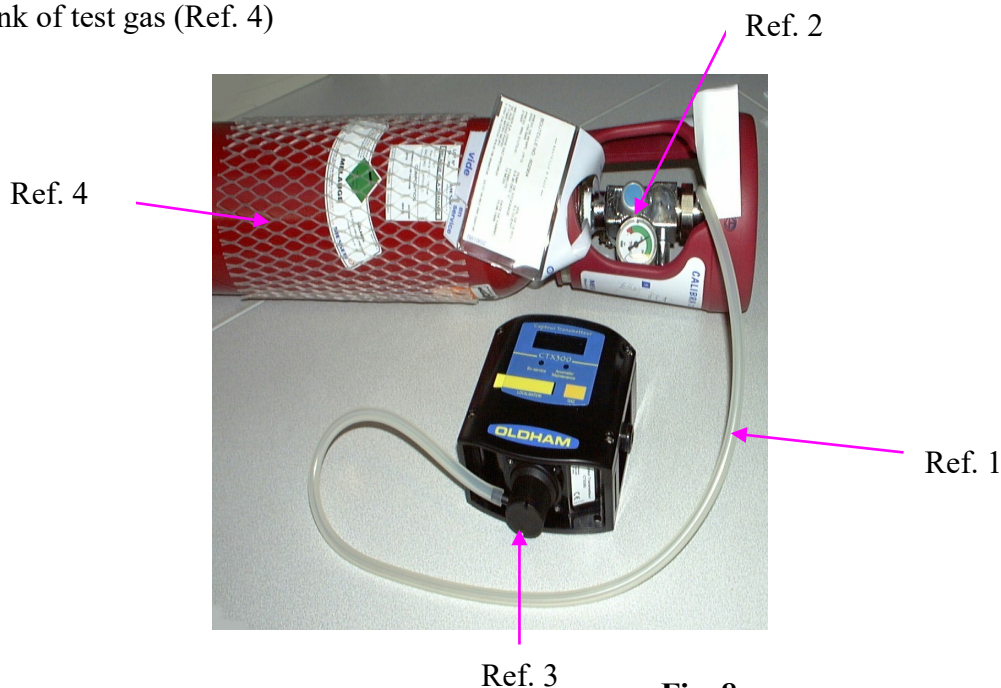

Fig. 8
- manometer + regulator valve for the compressed gas tanks (Ref. 2 – Fig. 8)
- calibration pipe (Fig. 8 – Ref. 3), which may vary depending on the nature of the gas (see Annex)